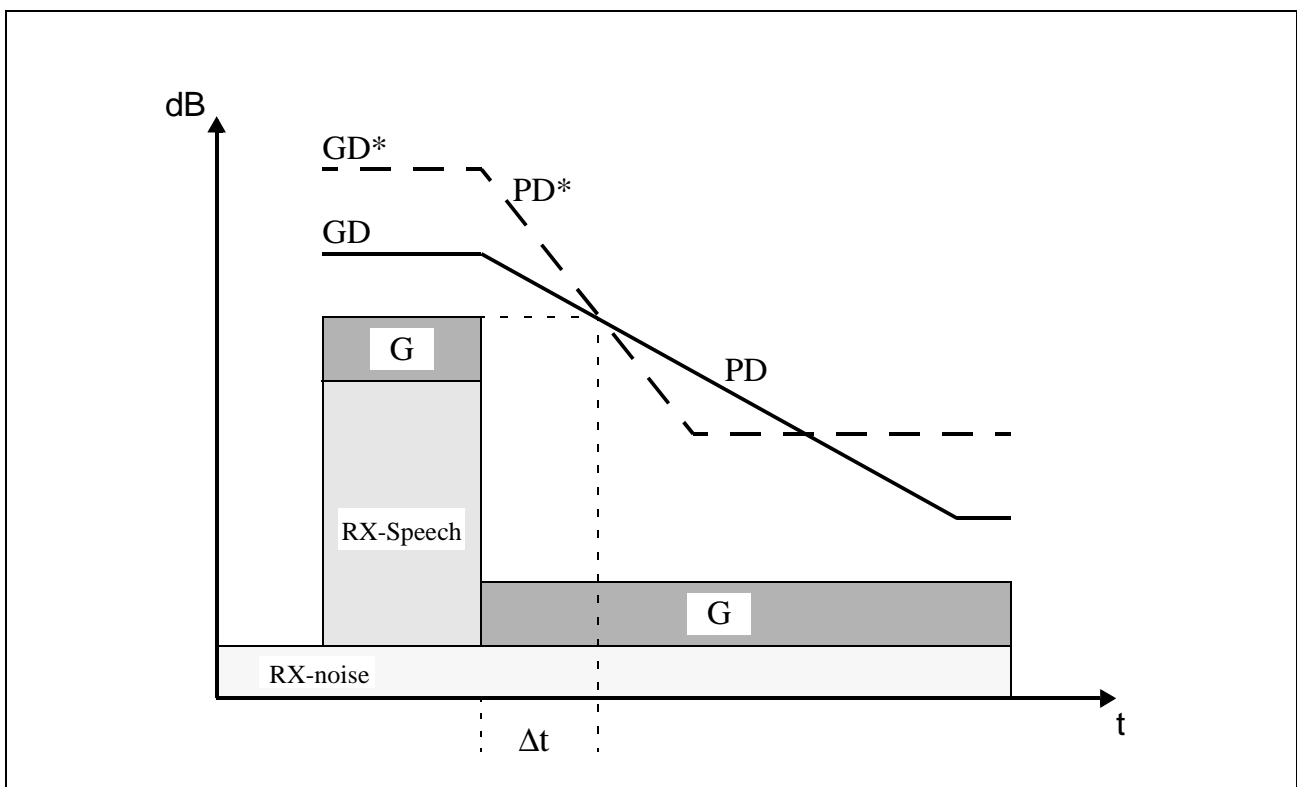

Figure 18 Speech Comparator - Interdependence of Parameters
According to figure 18, a compromise between the reserve GD and the decrement PD has to be made: a smaller reserve (GD) above the level enhancement G requires a longer time to decrease (PD). It is easy to overshoot the other side but the intercommunication is harder because after the end of the speech, the level of the estimated echo has to be exceeded. In contrary, with a higher reserve (GD\*) it is harder to overshoot continuous speech or tones, but it enables a faster intercommunication because of a stronger decrement (PD\*).